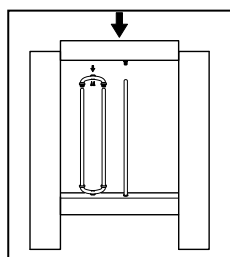

Figure 4
Step 5: Slide the Duo Connectors for the top rail into the balusters. Attach standard baluster connectors to the top rail. (Figure 4)